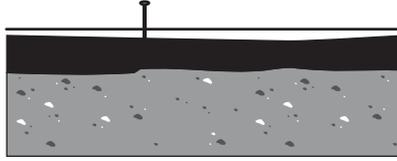

Figure 3-5. Stringline Spans Surface Irregularities
- Since the stringline is pulled tight, any small irregularities in the existing surface will be spanned (Figure 3-5).